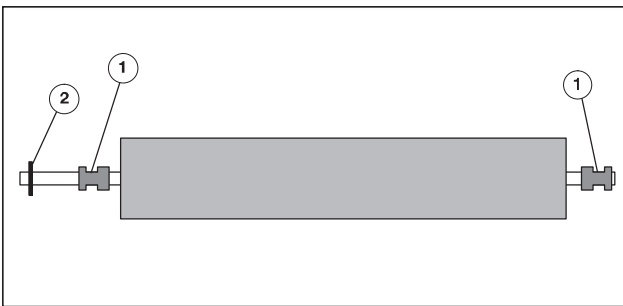
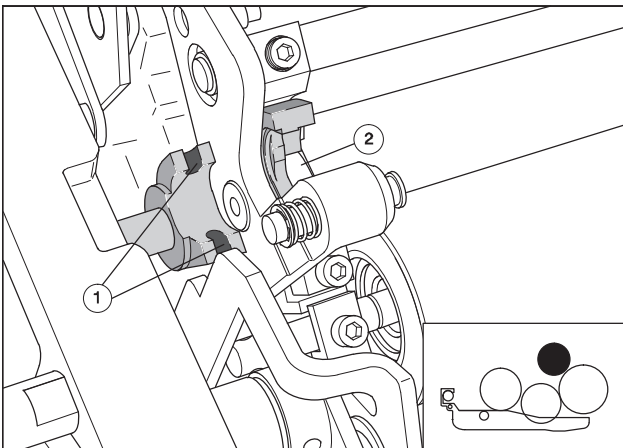

Fig. 29 Dampening distributor
Fig. 30 Inserting the dampening distributor
1. **Before inserting the dampening distributor** in the bearing shells, laterally move the bearing bushes (Fig. 29/1) on the roller shaft corresponding to the bearing shells.
The driving pin (Fig. 29/2) for the lateral distribution lies on O.S.
2. Insert the driving pin (Fig. 29/2) in the shaft of the dampening distributor into the groove (Fig. 30/1) on O.S. Simultaneously insert the dampening distributor with the previously aligned bearing bush in the journal boxes (Fig. 30/2). When inserting the dampening distributor do not tilt the bearing bushes!